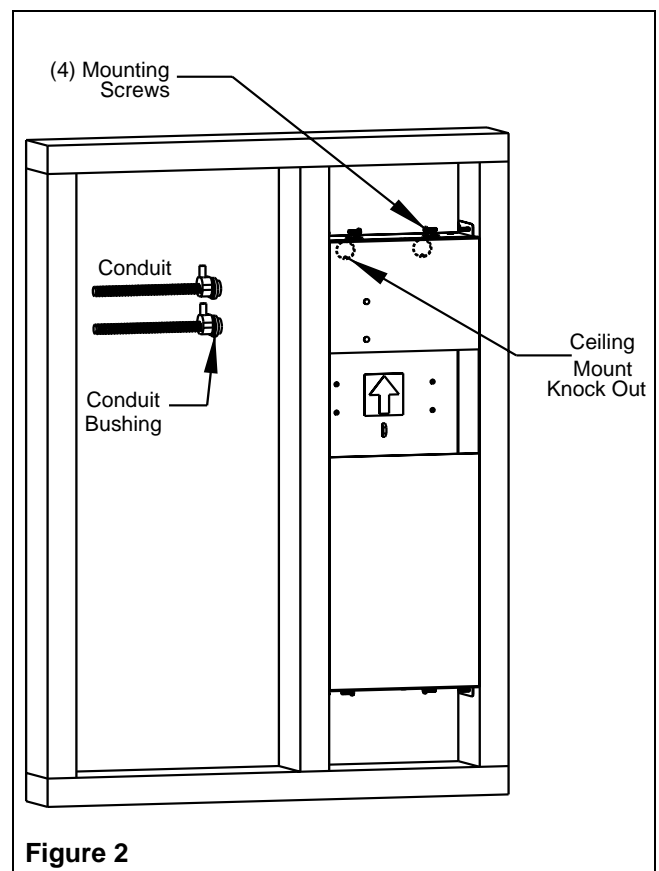

Figure 2
Back-Box Installation in Drywall Ceiling (Figure 2)
1. Knock out the hole(s) on the rear of the back-box for incoming cable(s) (AC line; DC emergency line, Figure 2).
2. Position the back-box at the desired location to be flush with the front edge of the joist, observing mounting orientation (Figure 2).
4. Frame the back-box as shown in Figure 2. Check for proper installation.